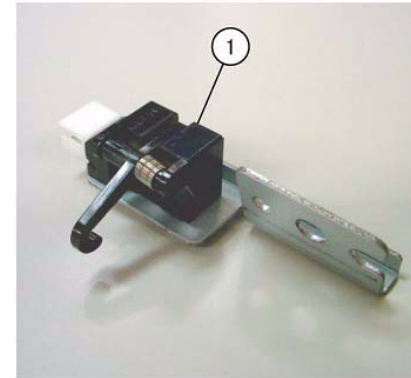

Figure 4 Removing the Finisher Entrance Sensor
9. Remove the Finisher Entrance Sensor (Figure 4):